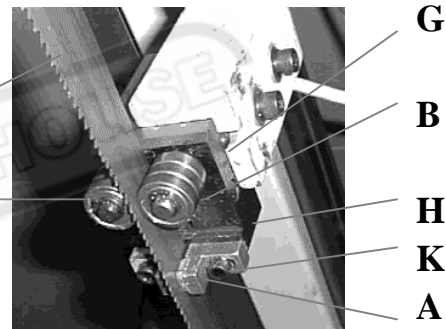

Fig.9
1. The back of the blade (A) (fig. 9) should ride against the back-up bearing (B). To adjust, loosen set screw (C) and move the guide block (D) up or down, until it lightly
- 2. The saw blade (A) should also ride between and lightly touch the two blade guide roller bearings (E) and (F) (fig. 9)
The front bearing (E) (fig. 9) is mounted on an eccentric, and can easily be adjusted to suit blade thickness by loosening set screw (G) and turning shaft (E).
3. The carbide blade guides (H) (fig 9) should also be adjusted so they lightly touch the blade by loosening screw (K).
4. The blade guide roller bearings, carbide guides and backup bearing on holder (fig 9 and 10) should be adjusted in the same manner.